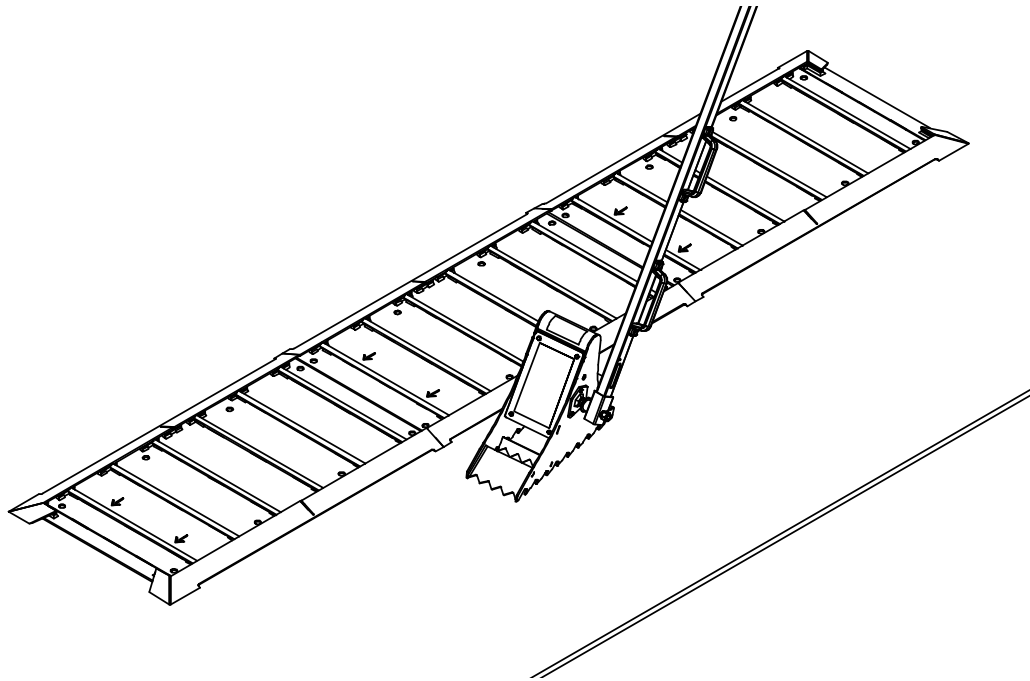

Figure 16
3. Test retraction with the chock on the second restraining plate. Check that the arm retracts towards the wall in 5 seconds or less. Continue to adjust the spring tension with the turnbuckle if necessary. See **figure 16** on page 20.
4. Verify retraction from the closest ground plate. See Figure 16. Ensure the arm retracts towards the wall in 5 seconds or less, if not, adjust spring tension with the turnbuckle.